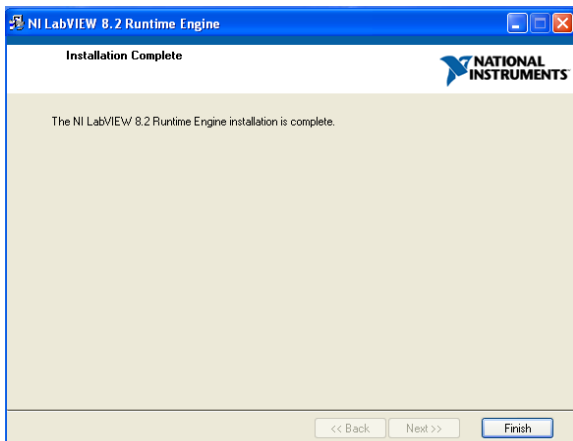

Figure 17. Installation Complete
8. When the installation is complete, click **Finish** (see Figure 17).